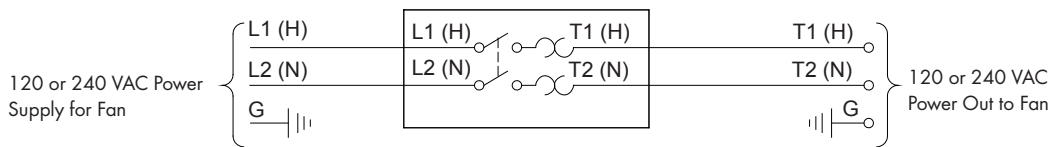

Figure 8A
**Single Phase Fans:** motor overload protection should be provided for each fan. A Circuit Breaker Switch or slow blow motor type fuses must be used See Figure 8A. See QM1400 for proper size.